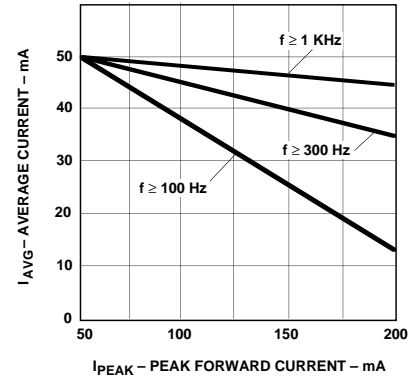

Figure 5. Maximum Average Current vs. Peak Forward Current.
- Any pulsed operation cannot exceed the Absolute Max Peak Forward current as specified in Figure 5.